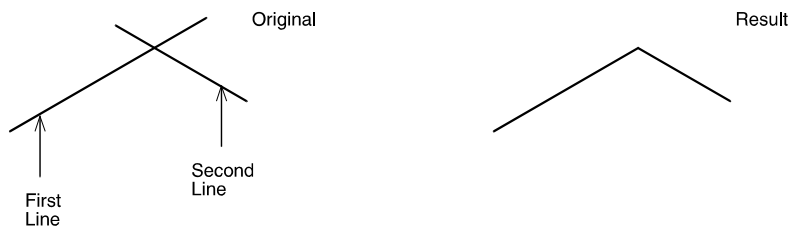

**Figure 12.3:** Trimming entities to a trim line
3. Click anywhere on the outside of the trim line; this will be the side that will be trimmed (see Figure 12.3).